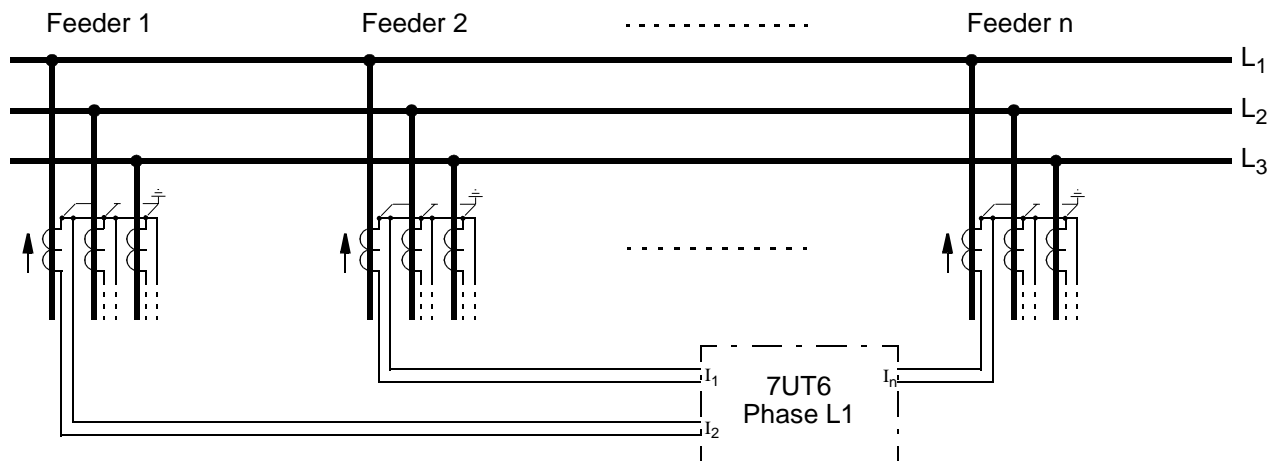

Figure 2-39 Single-phase busbar protection, illustrated for phase L1
1. One 7UT6 is used for each phase (Figure 2-39). Each phase of all busbar feeders is connected to one phase dedicated device.